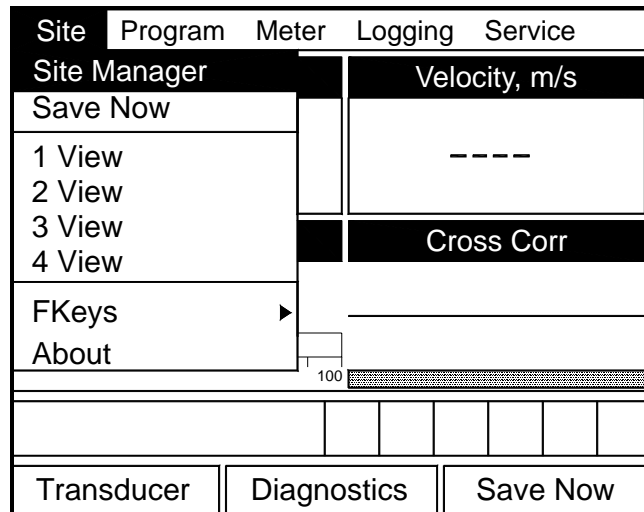

Figure 4-6: Site Menu
To enter the Site Menu, press the [MENU] key at the lower right of the CTF878 keypad. The Menu Bar replaces the Status Bar at the top of the screen. Scroll to Site using the [◀] and [▶] keys. Press [ENTER] or the [▼] arrow key. The screen now appears similar to Figure 4-6 below. While following the programming instructions, refer to Figure 4-12 on page 4-12.
As mentioned earlier, the CTF878 can display one to four different measurement parameters simultaneously. However, sometimes you might wish to display only one or two parameters. To change the number of open display windows from within the Site Menu (see Figure 4-6 on page 4-6), use the [▼] or [▲] arrow keys to move to the desired number of views (1 View, 2 Views, etc.) Press [ENTER].
1. From the Site Menu (shown in Figure 4-6 on page 4-6), use the [▼] or [▲] arrow keys to move to the FKeys entry on the menu. Press [ENTER]. The screen now appears similar to Figure 4-8 below.
1. From the Site Menu (shown in Figure 4-6 on page 4-6), use the [▼] or [▲] arrow keys to move to the FKeys entry on the menu. Press [ENTER]. The screen now appears similar to Figure 4-8 on page 4-8.